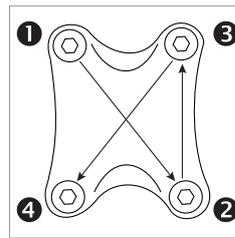

Figure 1
- Set the torque wrench to the manufacturer’s specifications. If no torque ratings are provided, set the torque wrench to 4–5Nm. Attach the correct hex-bit socket and tighten the faceplate bolts in half-turn increments using the following four-bolt tightening pattern (Fig. 1).